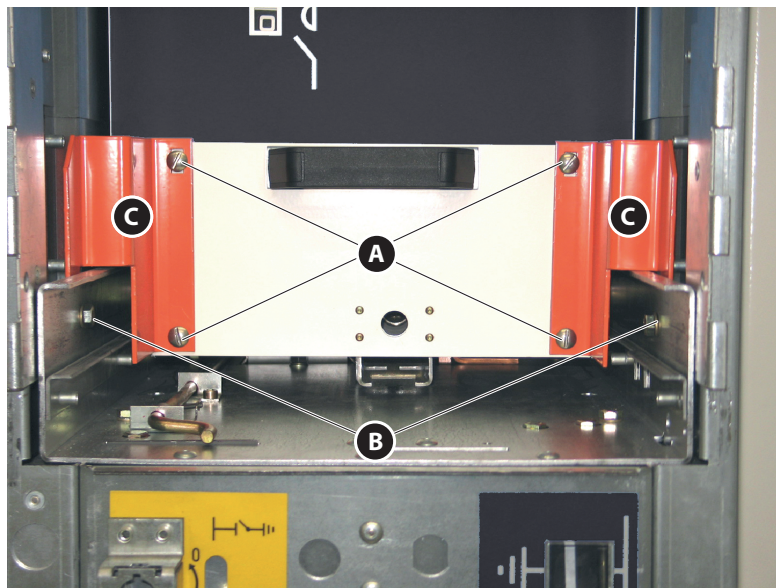

Fig. 2
2. Remove the locking mechanism of the vacuum contactor CVX in the switch compartment (Fig. 2):